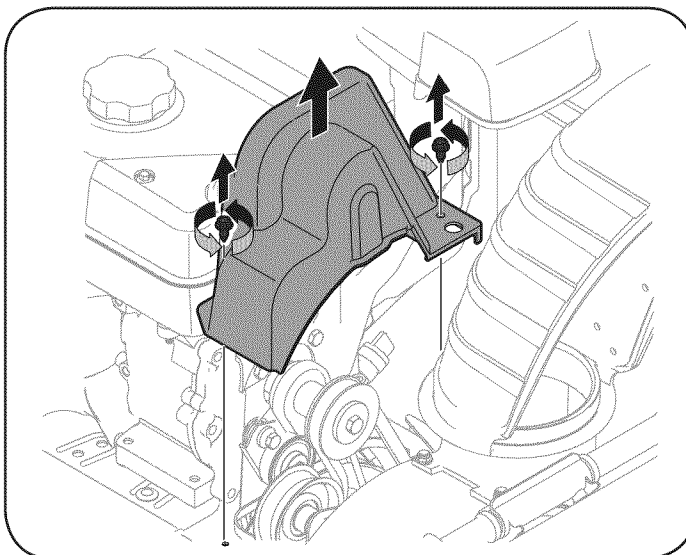

Figure 28
2. Remove the plastic belt cover on the front of the engine by removing the two self-tapping screws. See Figure 28.